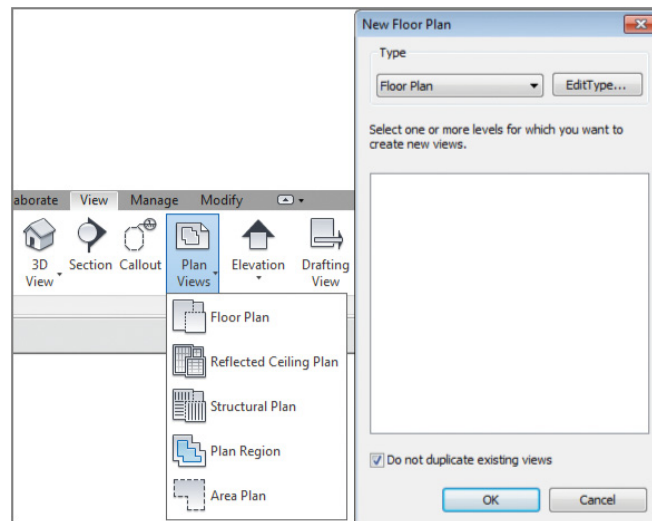

FIGURE 1.15 Use the View tab in the ribbon to create new floor plans.
7. From the View tab in the ribbon, find the Create panel, click Plan Views, and then click Floor Plan (Figure 1.15). By default, you'll see only those levels that don't already have floor plans created. In this case, you see Roof. Select Floor Plan from the list, and click OK.